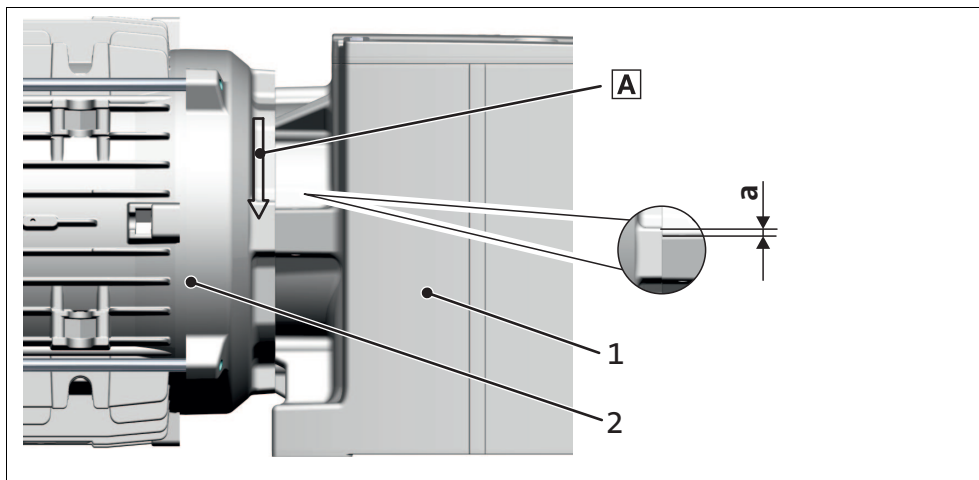

Fig. 9 Dimension of cam distance "a"
- A When measuring cam distance "a", be sure to measure the correct side (Fig. 9): when looking from the direction of the motor, the measurement must be made on the left side of the gearbox securing cam.